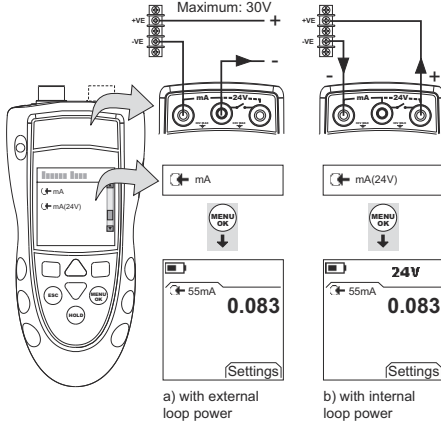

Figure 7: Example Configuration - mA Measurement
1. Connect the instrument (Figure 7) and, if necessary, adjust the Set Up (Table 1).
1. DPI802/802P only. Connect the instrument to the calibration equipment (Figure 7).